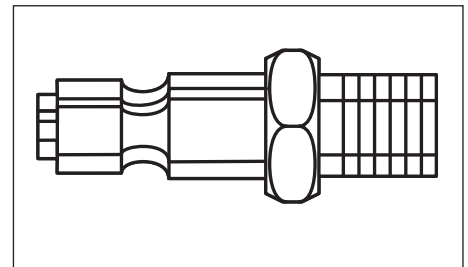

Figure 4 - Quick Plug
**QUICK PLUG** — A quick plug is designed to work in combination with a quick coupler to quickly and easily join a pneumatic tool to an air hose (see Figure 4).